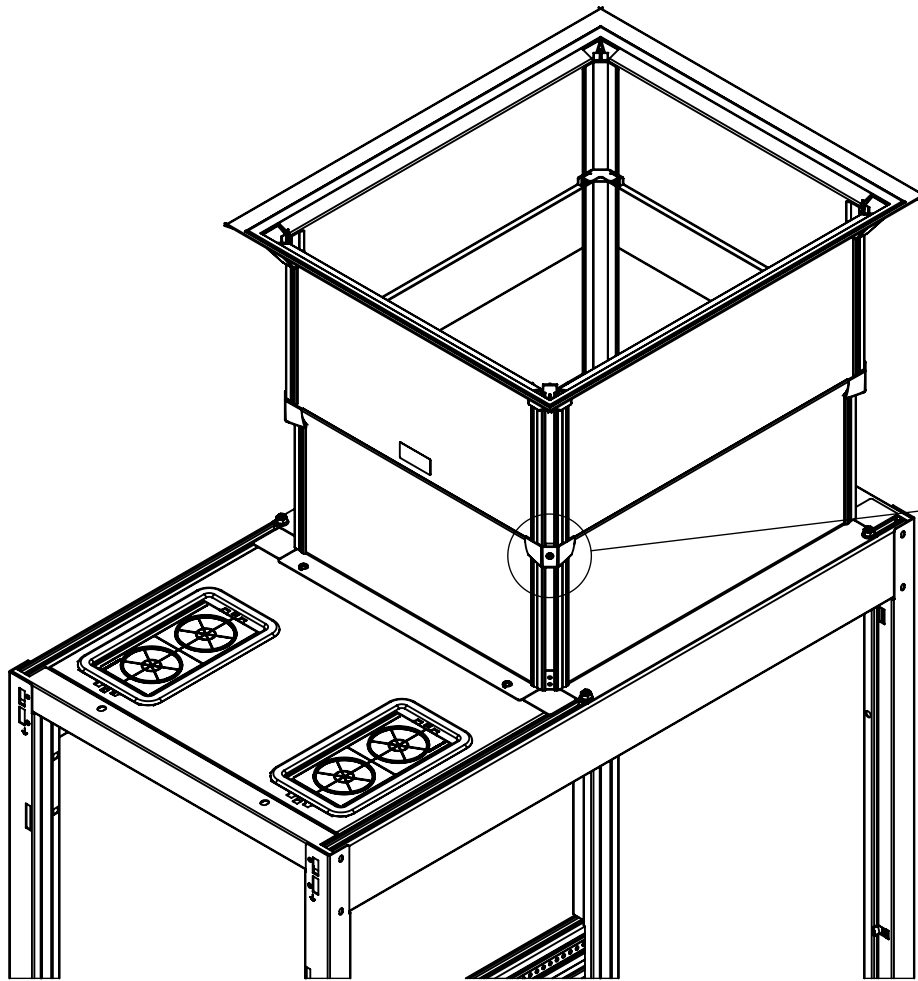

Fig. 16
20. Raise the Upper Duct until the Top Duct Seals are pressed firmly against the ceiling (Fig. 16).